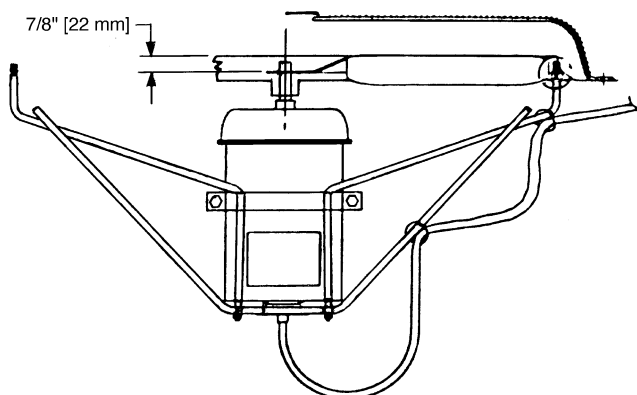

Fig. 46 — Condenser-Fan Adjustment (Standard Units)
3. See Fig. 46 and adjust fan height using a straight edge laid across the fan deck.